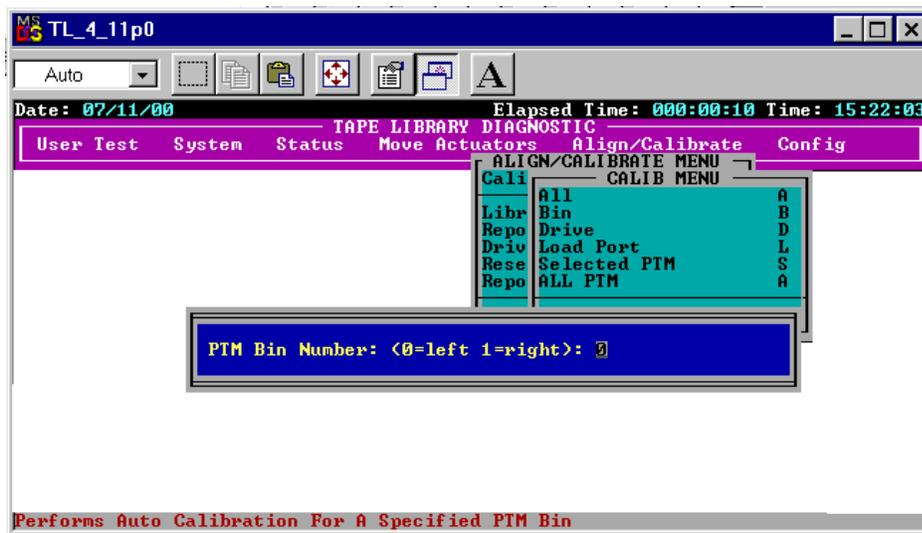

Figure 3-16. Calibration dialog box
3. Select either Selected PTM (left or right in a particular library) or ALL PTM (see Figure 3-16).